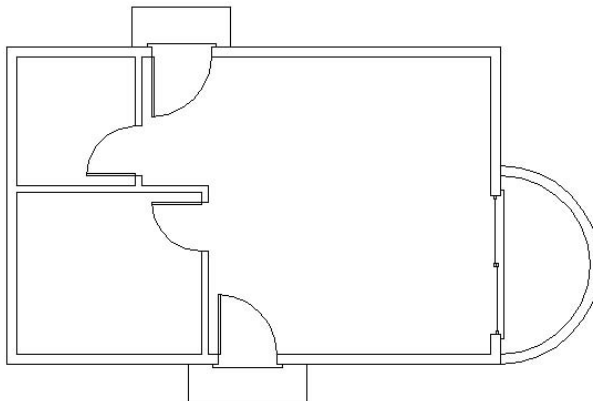

FIGURE 5.13: The floor plan with the balcony completed
12. Start the Offset command, set the distance for 6", and offset the semicircle to the inside. Press ↵ to end the Offset command. The balcony is complete. Zoom Previous to view the floor plan with the completed balcony. Save the drawing as Cabin05a.dwg (see Figure 5.13).